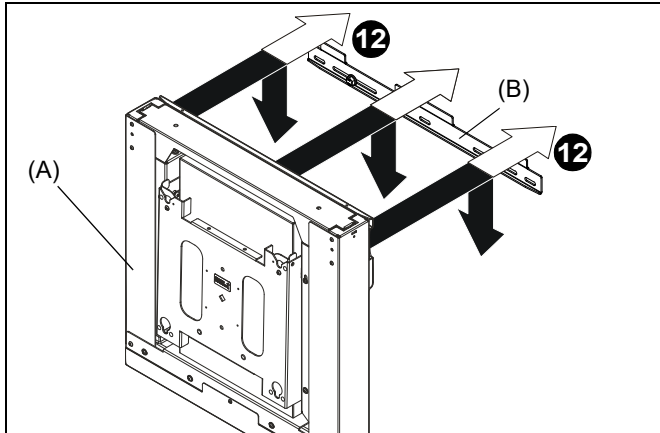

Figure 18
12. Hang XSD1U assembly (A) onto top bracket (B) by placing the teardrop mounting holes on mount over thumb nuts on bracket. (See Figure 18)